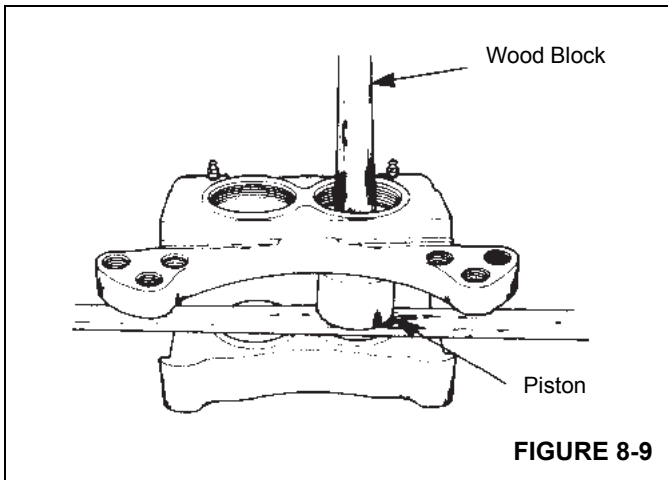

FIGURE 8-9
8. Remove the pistons from the mounting plate side of the housing. Push on the ends of the pistons to force them out of the disc side of the housing (Figure 8-9).